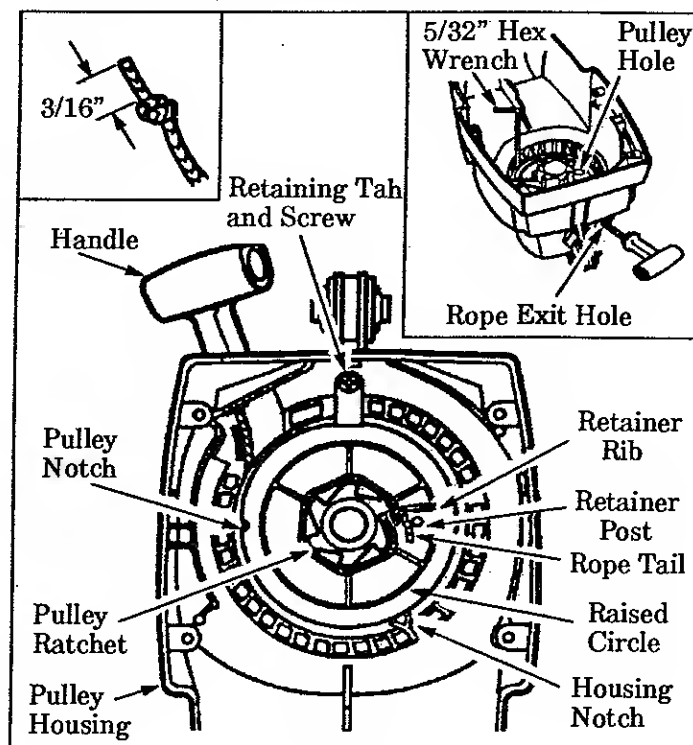

Figure 25
6. Untie Rope around the Pulley Ratchet (Figure 25) and pull the Rope out of the Pulley Housing.
7. Position the Pulley Housing as shown in Figure 25. Hand turn the Pulley clockwise → as far as it will go. Then, turn the Pulley counterclockwise ← until the Pulley Notch is aligned with the Housing Notch. Figure 25. Next, turn the Pulley one complete turn counterclockwise ← until the notches are aligned again.
8. Insert the small hex wrench into the hole formed by the Notches to hold the Pulley in position. Figure 25 (inset-upper right).
12. Insert one end of the Rope through the Handle and secure with a knot. Leave a 3/16" pigtail behind the knot. Figure 25 (inset-upper left).
13. Insert the other end of the Rope through the Rope Exit Hole into the inside of the Housing, into the Pulley and up through the Pulley Hole. See Figure 25 (inset-upper right).
14. Wrap Rope counterclockwise ← around the Pulley Ratchet and tuck loose end under Rope where it comes out of the Pulley Hole. Leave a 1/4 to 3/8 inch tail laying flat on top of the Pulley between the Retainer Rib and the Retainer Post as shown in Figure 25. Pull firmly on the rope to tighten it against the Pulley Ratchet. The rope tail must not extend beyond the Raised Circle on the Pulley to prevent interference with the Retaining Tab. Figure 25.